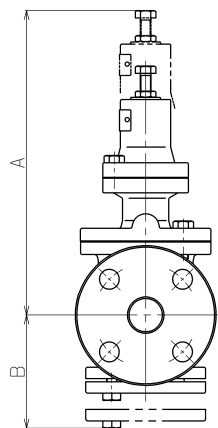

Fig.1
- (1) Install the valve perpendicularly to horizontal lines.
- (2) Provide the by-pass line. (See 6.1 Example of piping)
- (3) When the pressure-reducing ratio is large, install a reducer to keep the flow velocity in the pipe below 30 m/s or less.
- (4) Provide space on the top and bottom of the valve so that the valve can be easily disassembled and inspected. (See Fig.1)